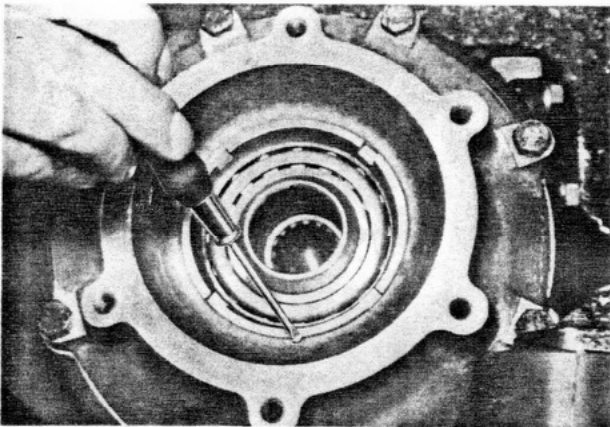

Fig.26
16. Secure adjusting nuts against further movement by drilling and tapping size M 4 (Fig. 26). Before commencing however, protect the driving gear and bearing from drill chippings with a suitable cover.